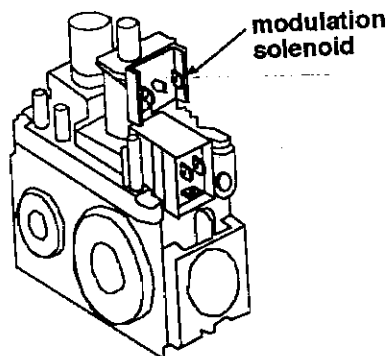

Fig. 3
5. Plug the output cable labelled "Solenoid" to the modulation solenoid of the gas valve. See Fig. 3